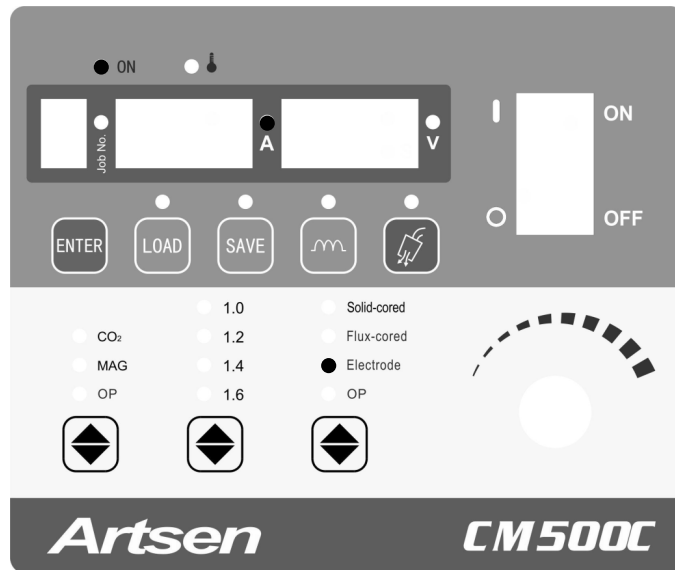

Figure 3-38 Selecting the mode of manual arc welding
3. Perform welding after the parameters are set. See Figure 3-38.